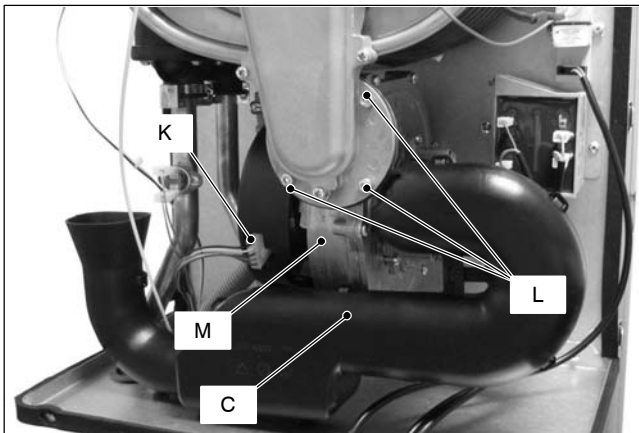

Fig. 17.2
- 3 Disconnect the air manifold *C* (Fig. 17.2) by pulling it.
- 9 Disconnect the fan connector *K* by pressing the plastic hook placed on the side of the connector (Fig. 17.2).
- 10 Unscrew the screws *L* (Fig. 17.2).